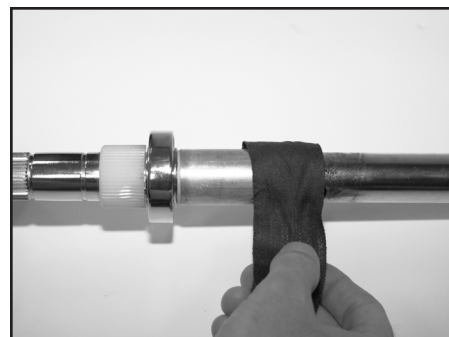

Figure 12
4. Secure the blade terminal connection and wire with electrical tape. Figure 12